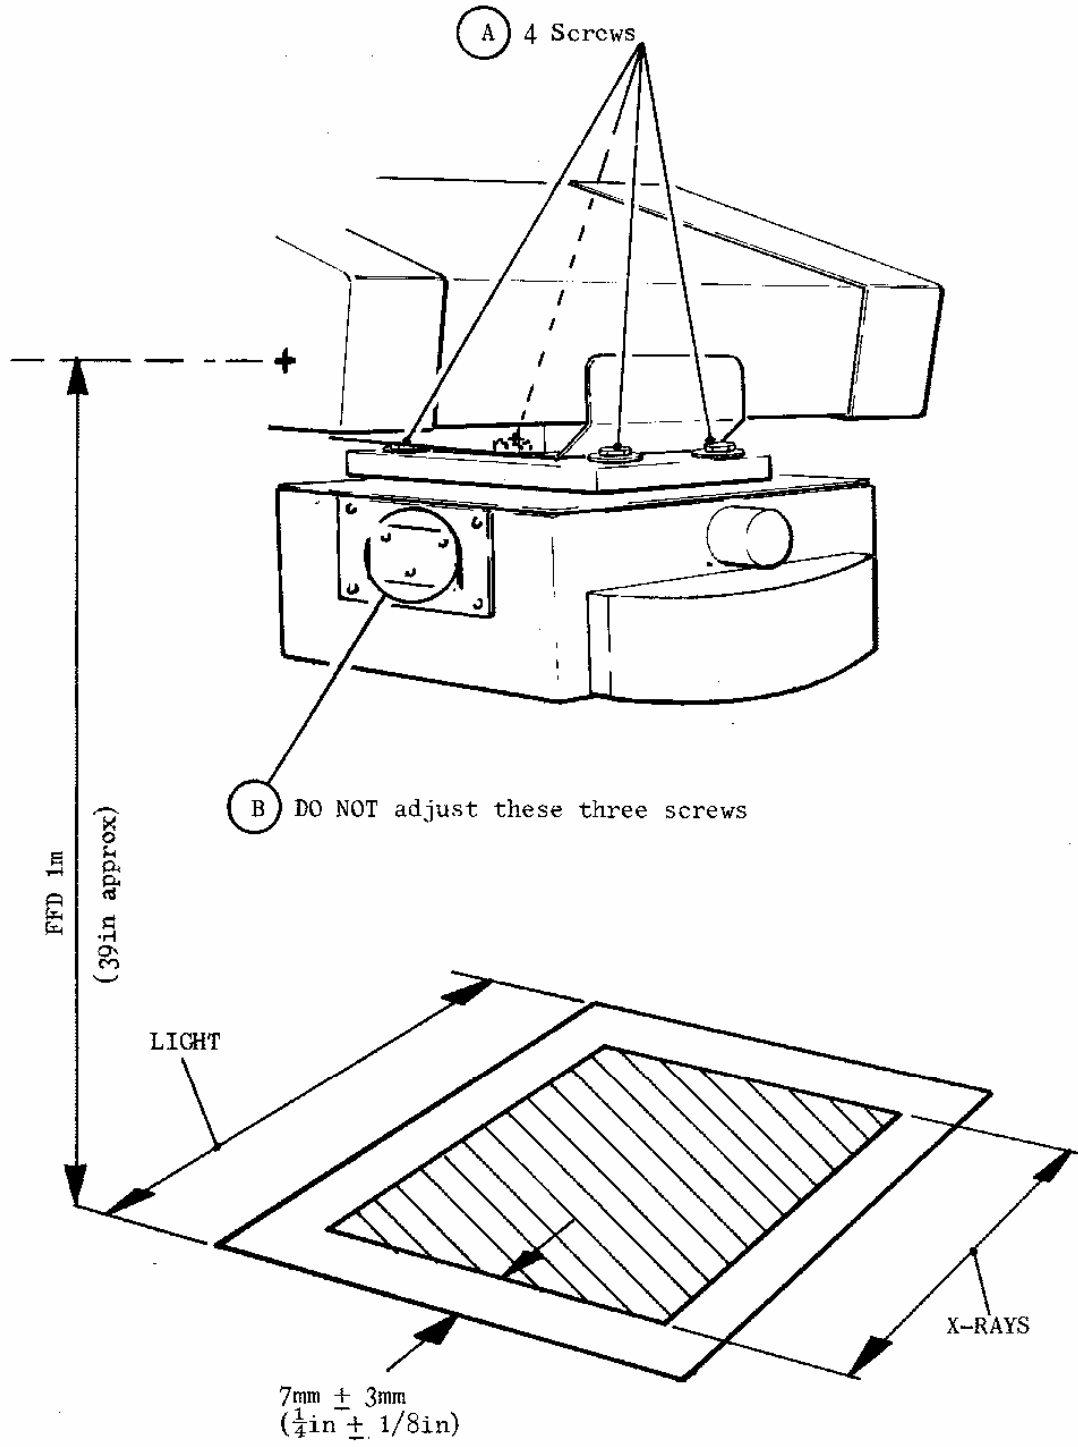

Fig 41 Adjusting LBD Beam
28. ADJUSTING LBD and MAKING FINAL RADIOGRAPHIC TESTS. Fig 41.
Alignment should be as illustrated in Fig 41.